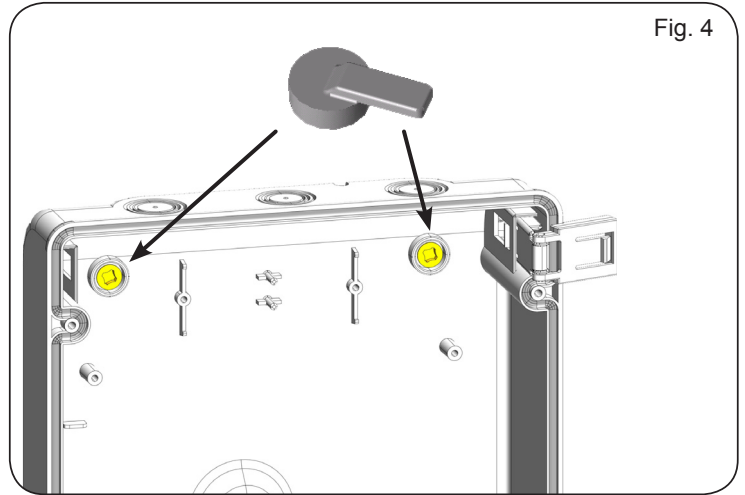

Fig. 4
When you have secured the box in the selected position, cover the securing holes (Fig. 2 ref. ①) and the screws with the supplied plugs as shown in Fig. 4.